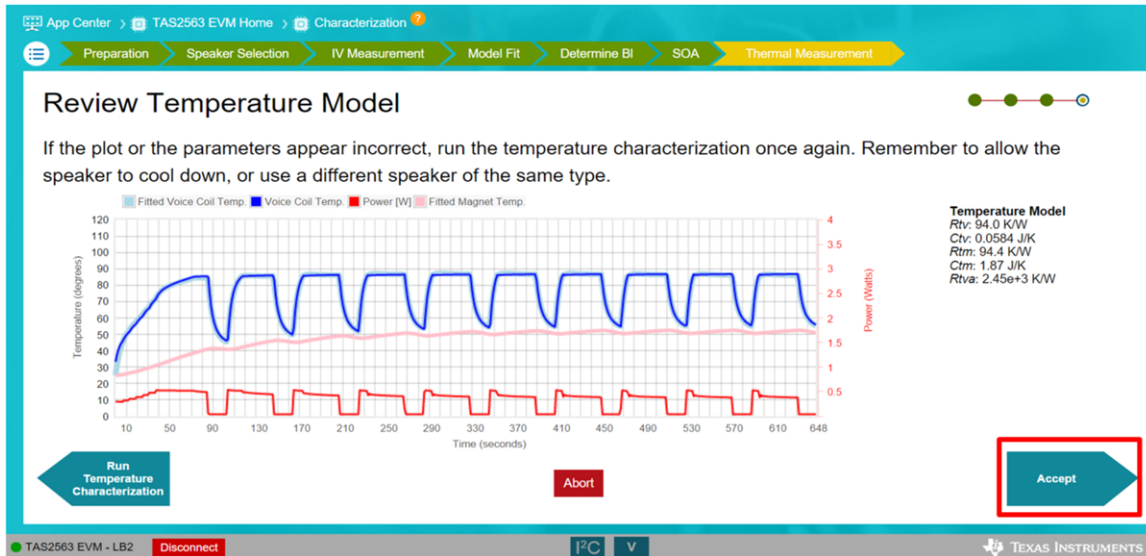

Figure 1-16. Review Temperature Model
- The temperature plot from the characterization will look similar to Figure 1-16. Please make sure the speaker heats up to the maximum temperature of the speaker.